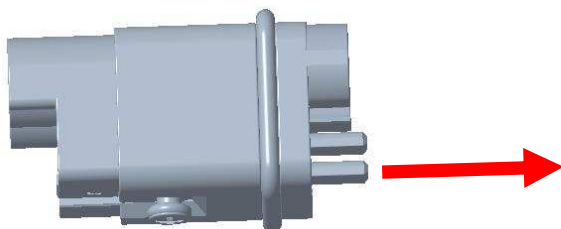

Figure: 12
- 2.) Pull coding pin out from insert directly by hand, see Figure 12.